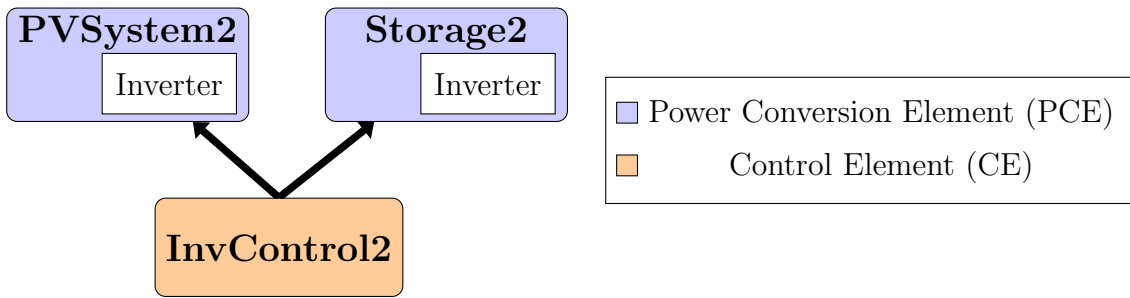

Figure 1: Relation between PVSystem2, Storage2 and InvControl2 elements
Up to this date, there is no standalone element for an inverter in OpenDSS. All inverter-related settings/functions span over PVSystem2 and Storage2 Power Conversion Element (PCE) and InvControl2 Control Element (CE) models. Even though IEEE 1547-2018 is applicable to DER with different power conversion device technologies such as synchronous machines, induction machines and static power inverters/converters, the features described in this document apply only to the aforementioned OpenDSS PCE. Figure 1 shows the relation between these elements and references [2] and [3] provide a detailed explanation about them.